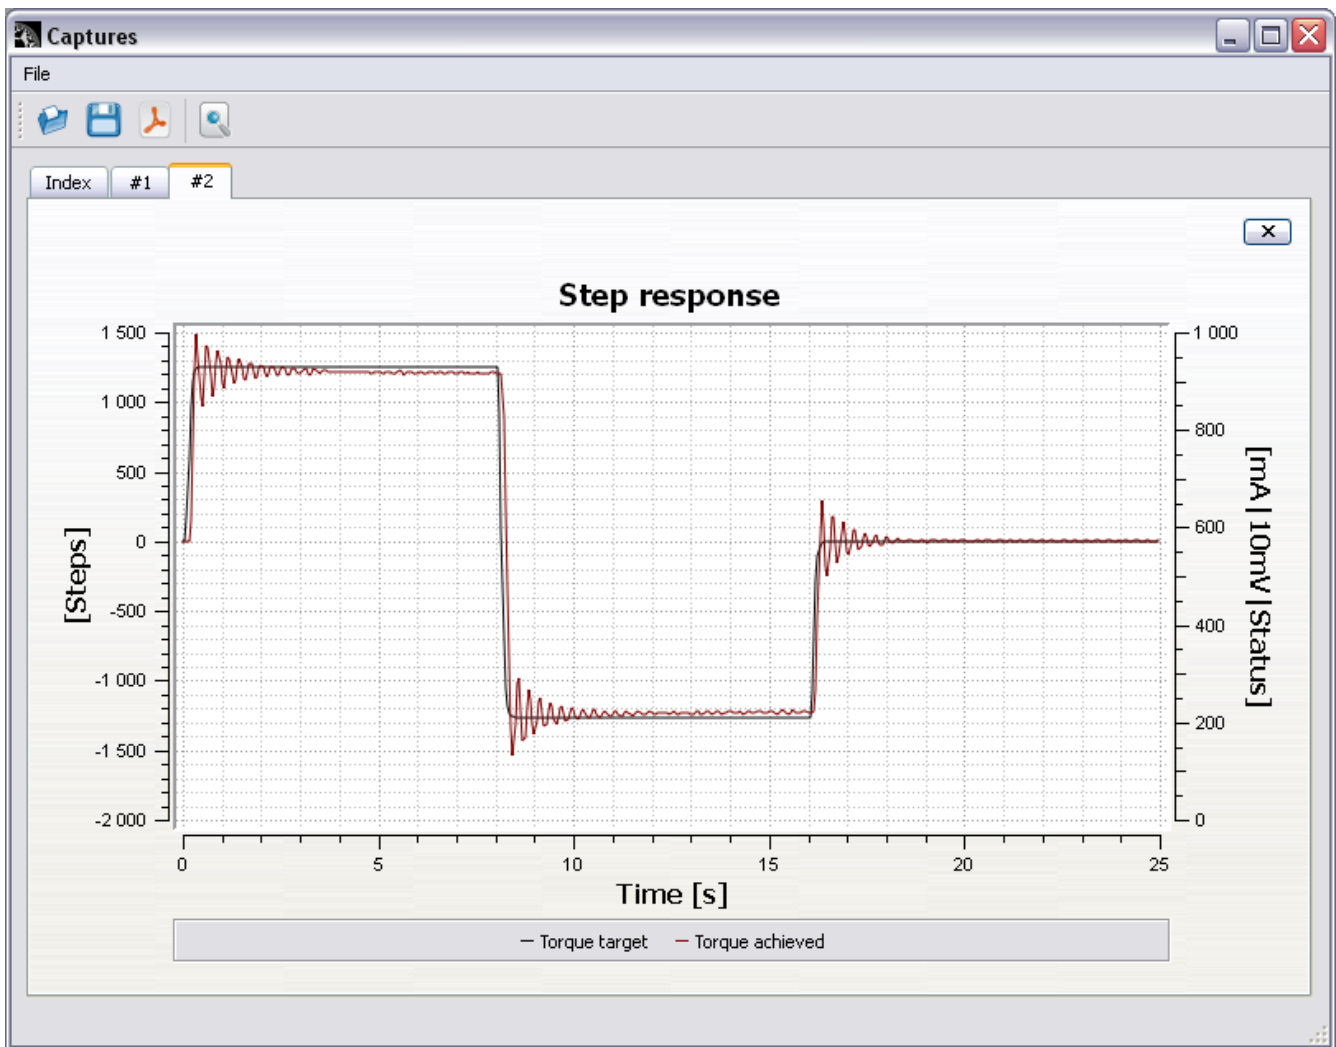

Figure 2: Too high torque P-gain value
- If you are getting response that resembles Figure 2, decrease **Torque P gain** and return to step 3.